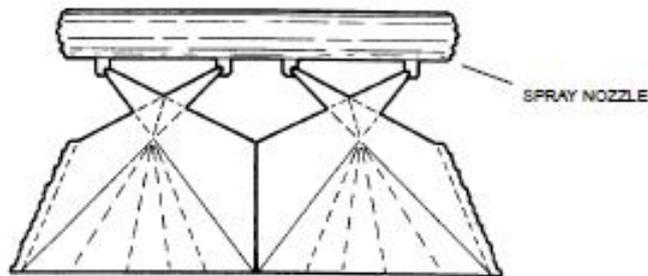

Figure 8a. Nozzle Spray Distribution (Cooling Towers)
3. Check to see if the nozzles are producing the spray pattern shown in Figure 8a for cooling tower or 8b for industrial fluid coolers and evaporative condensers.